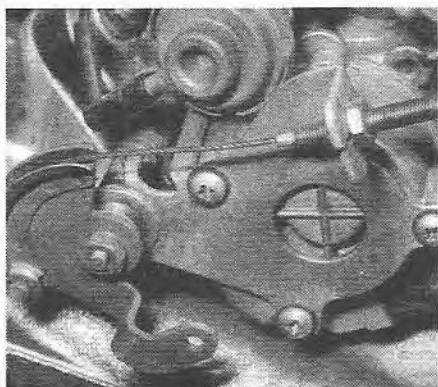

Fig. 4.9 Throttle cable connections on a SU HIF carburetor
- The throttle valves are not normally subject to wear, but the outer periphery of each should be examined for damage which could prevent it fully seating in the barrel (refer to Fig. 4.9 and 4.10).